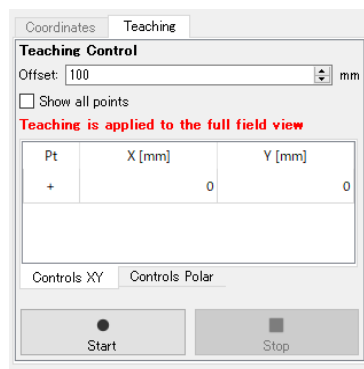

Figure 7-49 Teaching setting
- Click the "Start" button (Figure 7-49) to start recording the background data. Recording will continue until the stop button is clicked